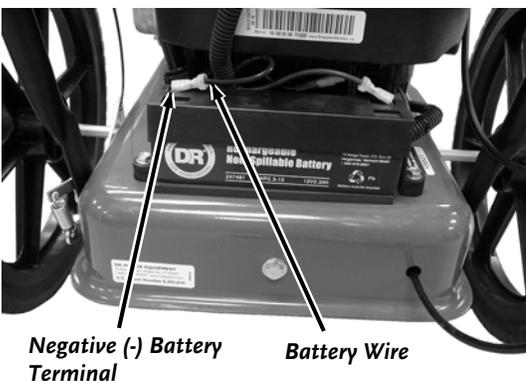

Figure 12
1. Connect the black wire by pushing the plastic connector onto the negative (-) Battery terminal (**Figure 12**).